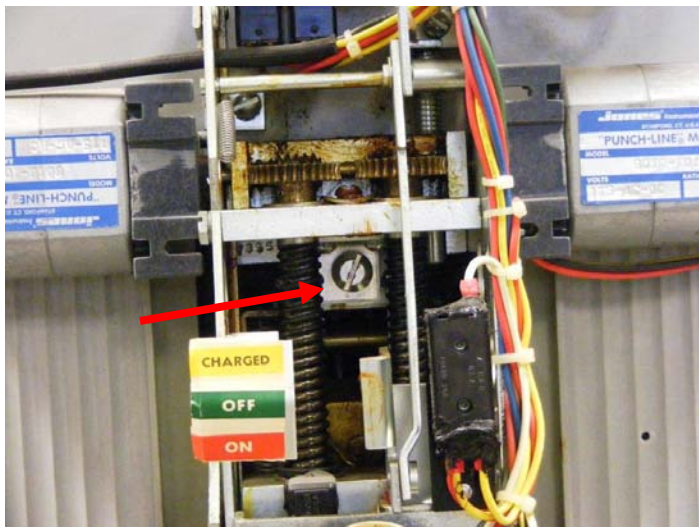

FIGURE 17, LOOSEN INDICATED SCREW TO REMOVE FRONT MECHANISM
5.10. If there is not enough slack in the wire harness, the existing programmer mount may need to be removed in order for the *horseshoe* bracket to be slid over the positioning pins on the mounting bracket. To remove the programmer mount, the front mechanism of the breaker must be removed. This is accomplished by loosening the screw indicated in figure 17.